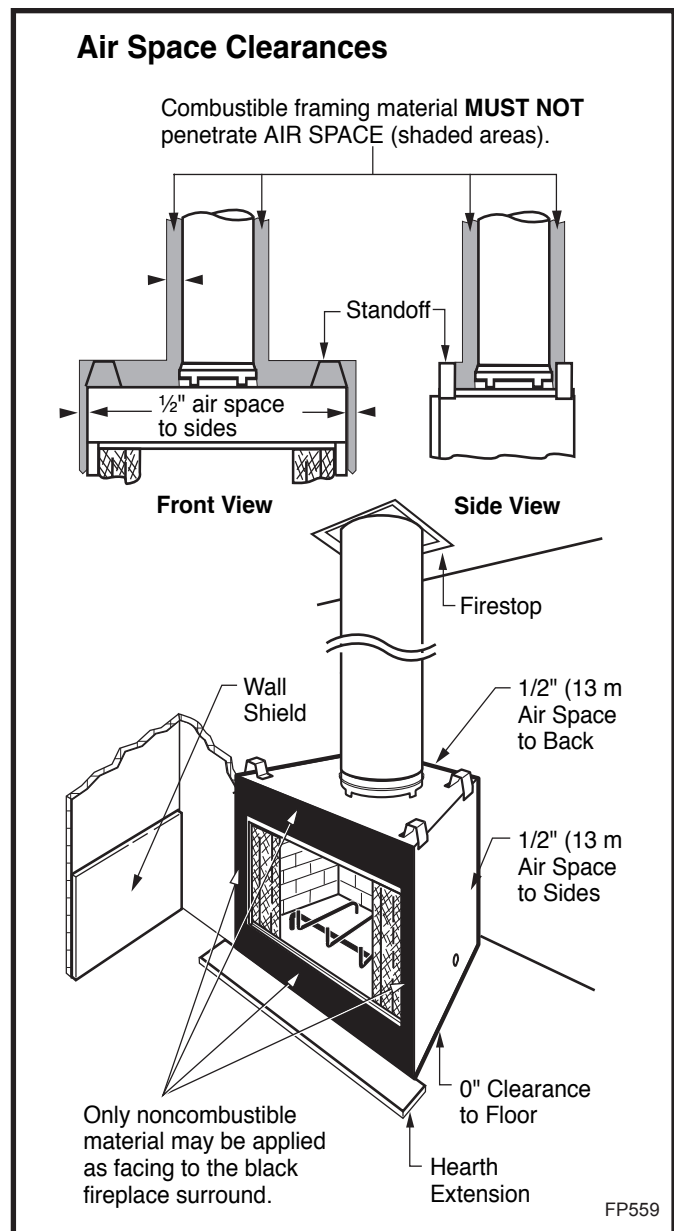
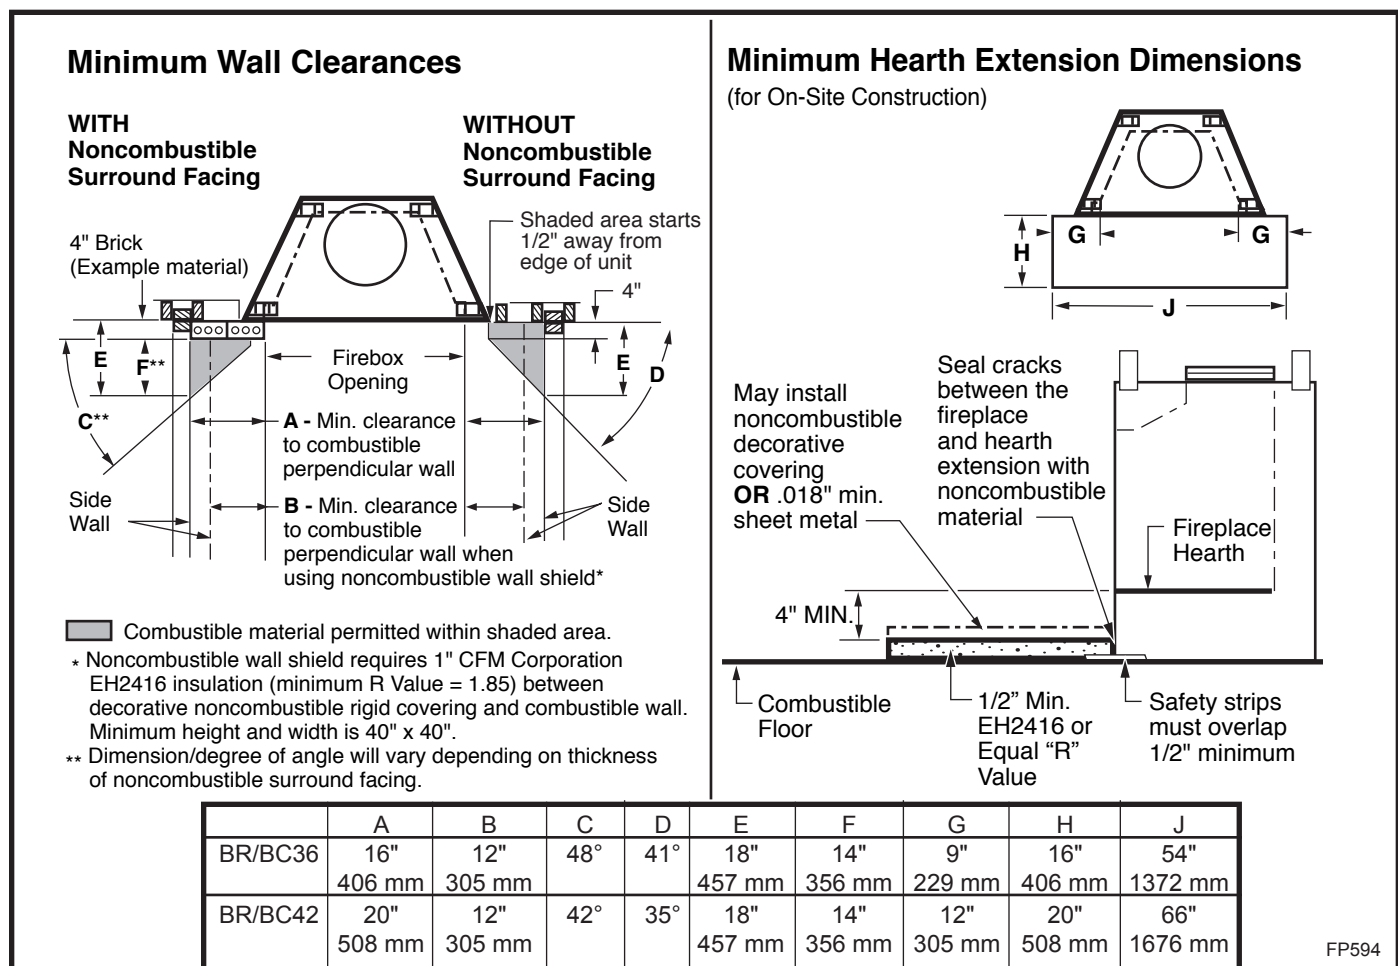

Fig. 20 Minimum clearances to combustibles.
Fig. 23 Combustible side wall protection and hearth extension dimensions.
**CAUTION:** All joints between the finished wall and the fireplace surround (top/sides) must be sealed with noncombustible material to prevent cold air leakage into the room. Only noncombustible material may be applied to the facing of the fireplace surround. (Black painted area) (Fig. 20)
Often a decorative surround or vertical portion of the mantel is desired. If this is constructed of any combustible material it must be within the safe zone indicated in Figure 23.
Adjacent combustible side walls that are within minimum dimensions shown in Figure 23 of the fireplace opening must be protected with a specifically built wall shield as described in Figure 20.
The special wall shield design described in Figure 20 is an alternate method of adding protection to side walls. Rt must = 1.85 minimum.
A hearth extension is required to protect a combustible floor in front of the fireplace. Refer to Figure 23 for minimum dimensions and mounting detail.
The hearth extension described in Figure 23 must be a durable noncombustible material with a minimum (total) Rt value of 1.09; see Figure 24 for examples. The overall height (above a combustible floor), depth and width must be as indicated, with the extension centered to the fireplace opening.
The top of insulation must be covered with a noncombustible decorative covering **or** a piece of .018" minimum sheet metal, to protect hearth extension material. (Fig. 23)
Secure the hearth extension to the floor to prevent shifting, using trim molding or other similar means at three (3) outer edges. Seal crack between the fireplace hearth and hearth extension with a noncombustible material. (Figs. 23 and 25)
**WARNING: HEARTH EXTENSION MUST BE INSTALLED IN ACCORDANCE WITH FIGURE 23 AND MUST NOT COVER THE BOTTOM FRONT OPENING OF THE CIRCULATING MODEL.**